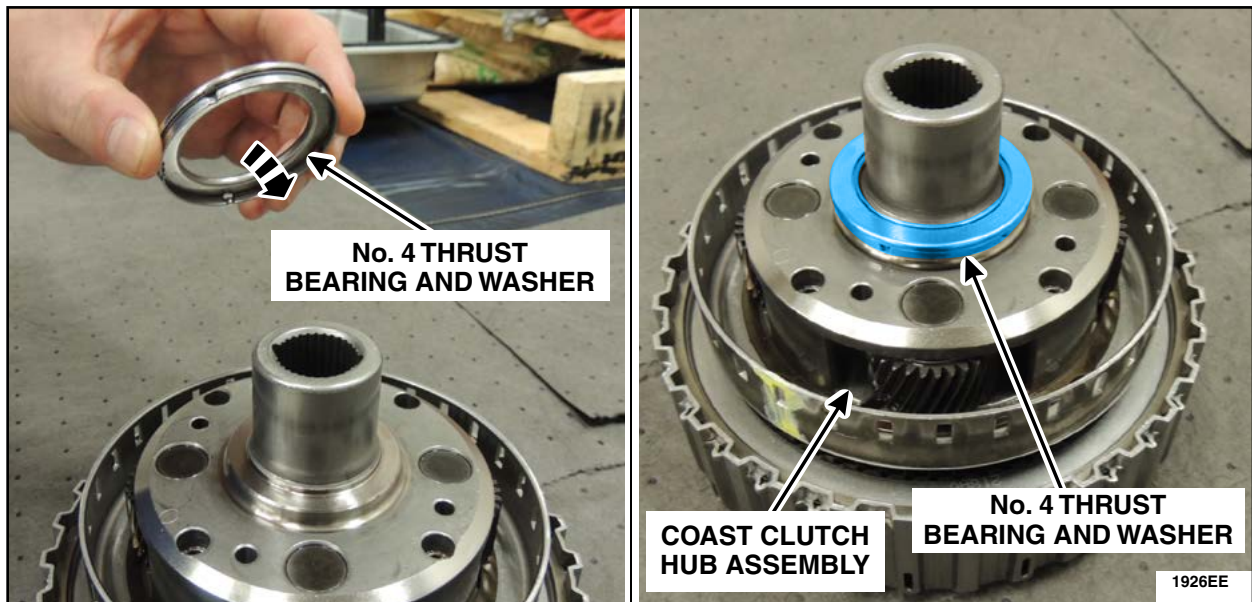

FIGURE 31
29. Install the No. 4 thrust bearing and washer onto the coast clutch hub assembly. See Figure 31.